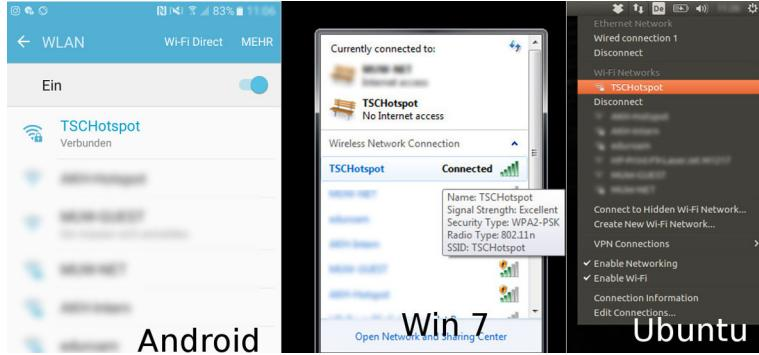

Figure 22: Various views of the autonomous **TSCHotspot** WLAN access point spawn by TSC.
- Select **TSCHotspot** as your WLAN access point (see also Sect. 5 and Fig. 22).
In addition, TSC also supports LX200 operation via WLAN – remember that TSC can open its own access point, and external devices such as laptops and tablets can connect to it. The default name for this autonomous WLAN access point is **TSCHotspot**. Fig 22 shows the looks of accessing TSC.